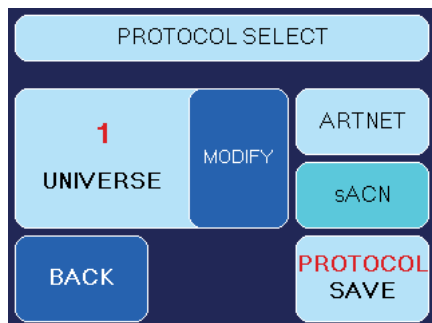
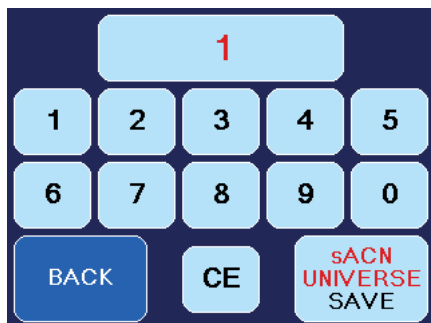

Fig. 14 Screen with activated sACN-Button
Fig. 15 Screen for configuring sACN
Press **sACN** (Fig. 14). The button changes its colour to cyan, showing its active mode.
- Press **MODIFY** (Fig. 14). The screen on the right appears (Fig. 15).
- Press **CE** (Fig. 15) and type in the value for the selected *Universe*.
- **sACN UNIVERSE SAVE** saves the value, **BACK** switches back to the previous screen (Fig. 14) without saving the value.
- Now press **PROTOCOL SAVE** (Fig. 14) to save your sACN adjustments.